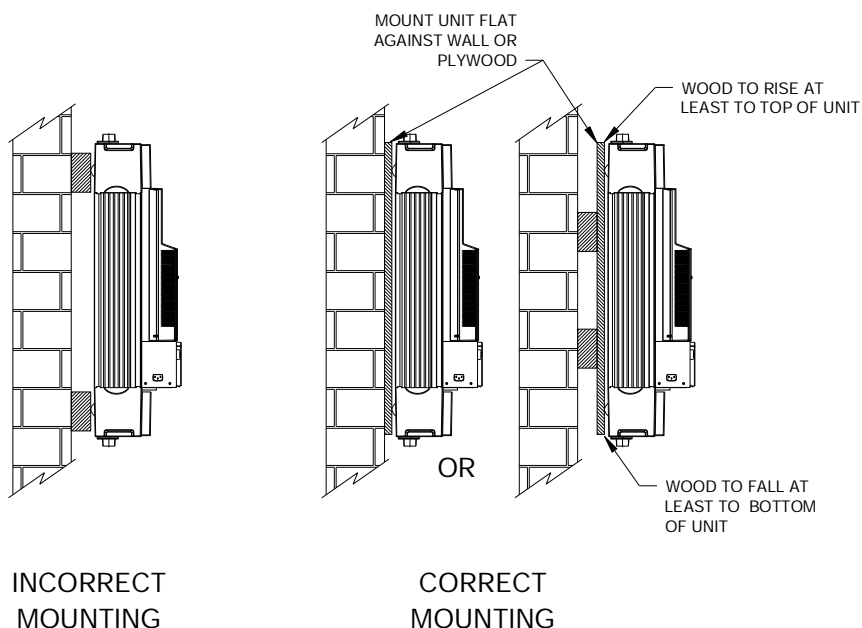

Figure 1E
Step 2: The Upstream has four keyhole slots for convenient mounting – all four should be used. **The unit should be secured vertically to a solid wall large enough to cover the complete backside of the unit – See Figure 1E. Do not** install the unit horizontally. Remove the top and bottom covers of the unit to make the mounting holes accessible.